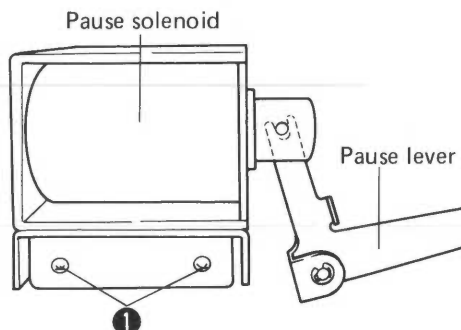

Fig. 6-7 Pause adjustment
2. Loosen screw ❶ as shown in Fig. 6-7 to obtain a gap of 0.5 – 1mm between the capstan and pinch roller, and then adjust the mounting position of the pause solenoid.